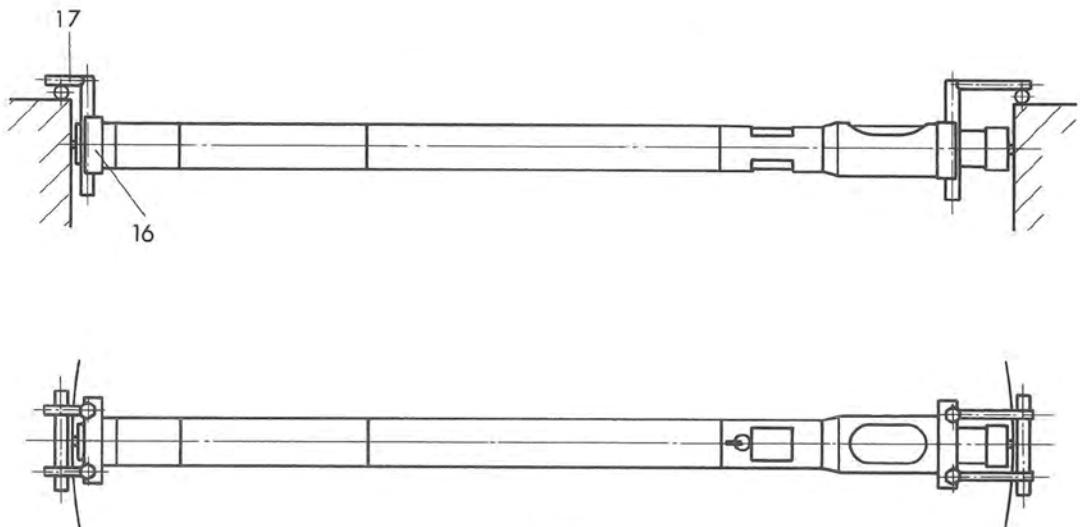

Fig. 13.
- Fit the clamps (16) and introduce the measuring arms (17).
- Set the measuring arms as shown in Fig. 13 to bring the instrument into the most favourable position.